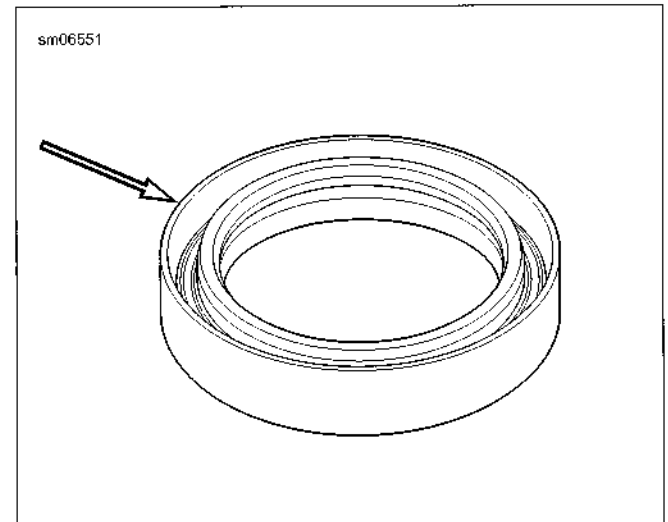
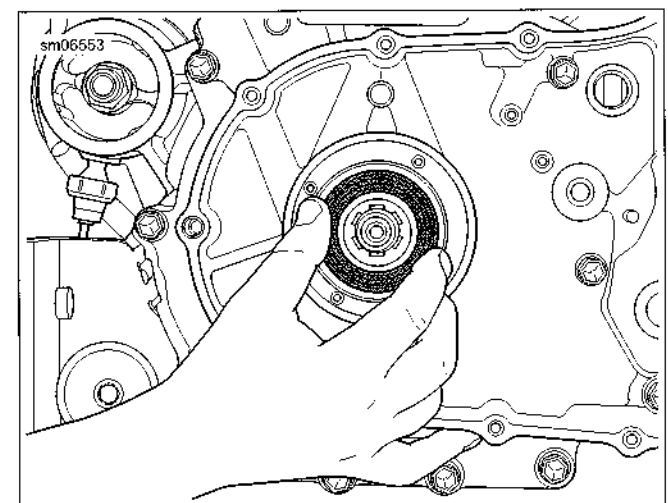

Figure 3-117. Open Side of Seal Faces Out
Figure 3-118. Install Spacer and Seal
7. See Figure 3-117 and Figure 3-118. Install spacer in ID of new seal. With the open (lipped) side of seal facing outward, center seal/spacer assembly over bearing bore.